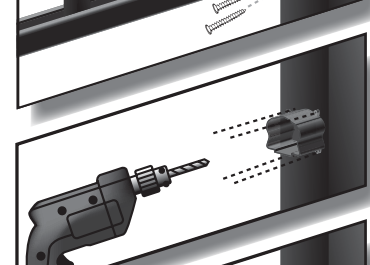

Figure 5
- 6.) Install $\frac{3}{4}$ " screws (included) to attach bracket to post *Figure 5*.